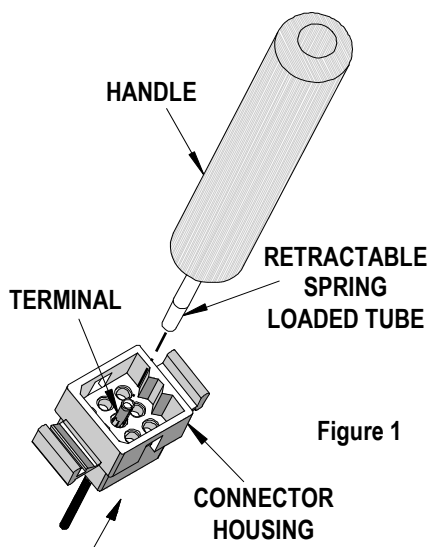

Figure 1
1. The Extractor Tool must be **In Line** with the terminal as shown. Push terminal forward in arrow direction before using the Extractor Tool. See Figure 1.